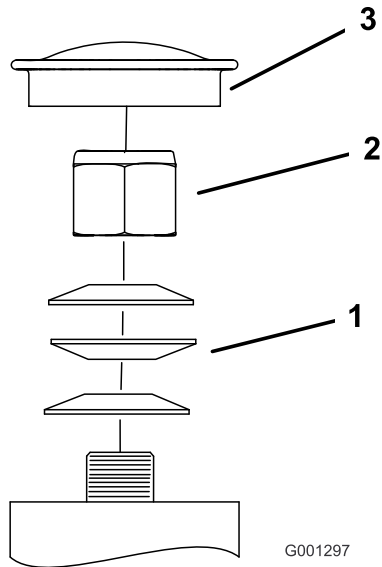

Figure 62
- Remove the dust cap from caster and tighten locknut (Figure 62).
- Tighten the locknut until the spring washers are flat and then back off a 1/4 turn to properly set the pre-load on the bearings (Figure 62).
**Important:** Make sure the spring washers are installed correctly as shown in Figure 62.
- Install the dust cap (Figure 62).